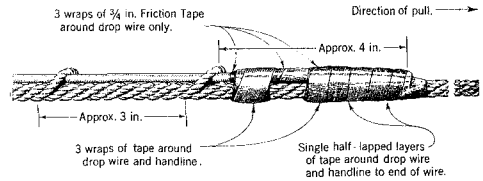

Fig. 6 – Alternate Tie to Prevent Snagging
**Note:** If the handline has been placed over a drive hook or other support on which the square knot would snag, fasten the wire to the handline as shown in Fig. 6.